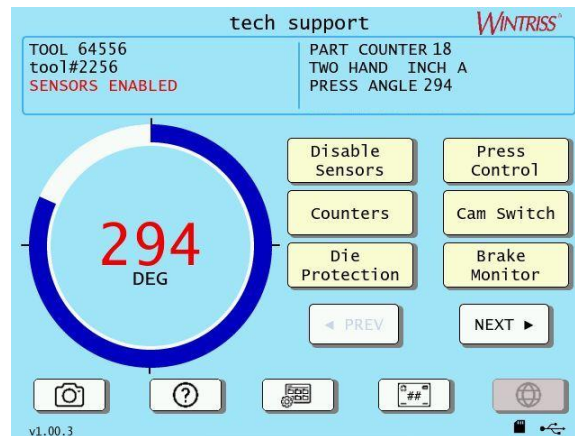

Figure 3-36. Main Run Menu
6. Note the crankshaft angle shown inside the crank angle clock on the Main Run Menu screen, Figure 3-36, which in this example shows 294 degrees.